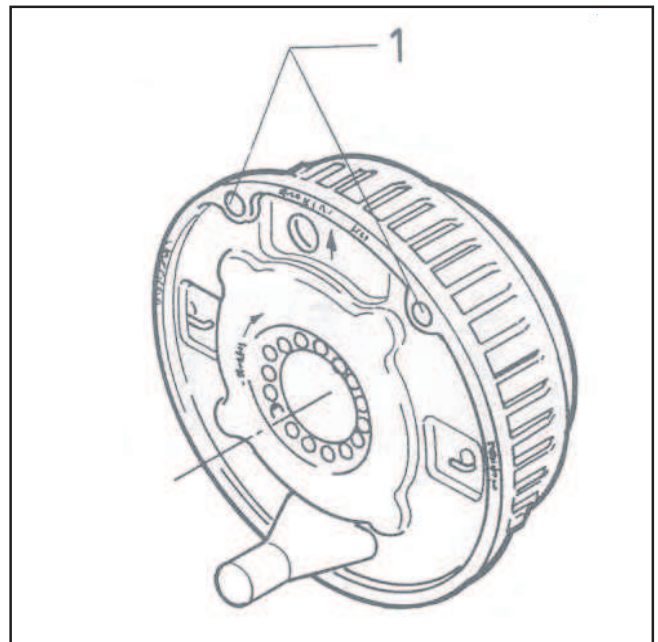

FIG. 70
- Check the wear of the brake lining through the inspection hole (FIG. 70-REF. 1). Have the brakes adjusted if necessary.